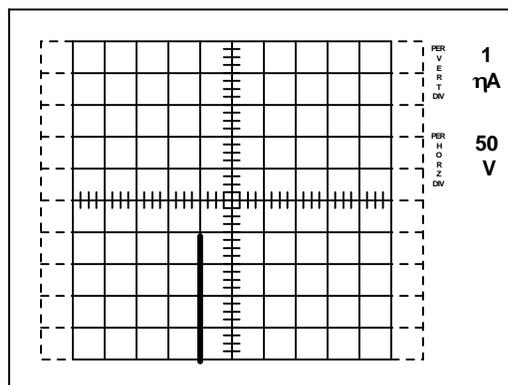

Figure 3. Drain-source leakage current
2. Connect the device using the LEFT/RIGHT switch and adjust the collector supply voltage to the rated voltage of the HEXFET Power MOSFET (200V for the IRF630). Read the value of  $I_{DSS}$  from the display (see Figure 3). The vertical sensitivity may need altering to obtain an appropriately sized display. Often  $I_{DSS}$  will be in the nanoamp range and the current observed will be capacitor currents due to minute variations in collector supply voltage.